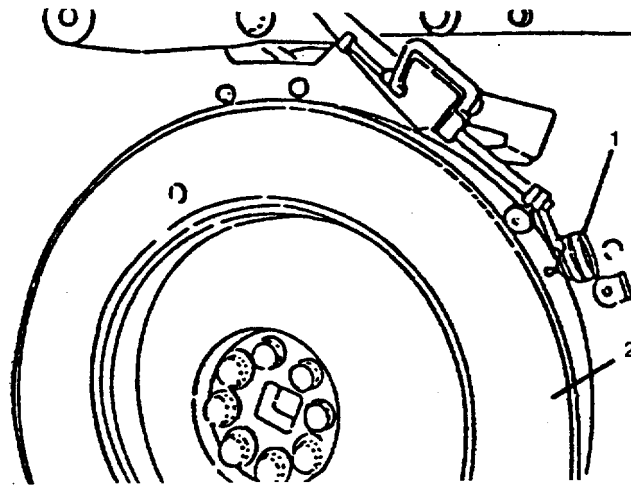

FIGURE 4-45. Vibration Damper Eccentricity Measurement.
- (1) Mount a dial indicator (1, FIG. 4-45) to the gear cover; position the indicator pointer on a machined surface of the outer member one-half inch back from the face of the damper (2).
- (2) Rotate the engine crankshaft 360 degrees and record the total indicator runout. Verify eccentricity does not exceed 0.020 inch (0.51 mm).
- (3) If the measurement is not within specifications, ensure that the roll pin is installed correctly. If it is still not within specifications, remove and inspect the damper.